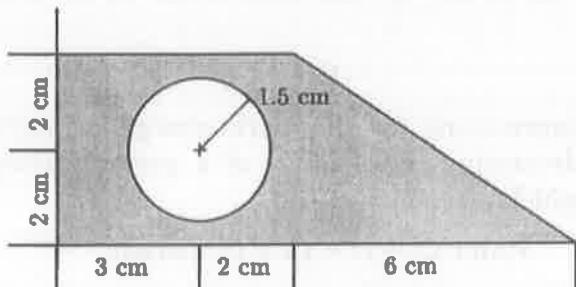

Figure 13 (a)
13. (a) Determine the centroid and moment of interia of a composite area as shown in figure.13 (a).